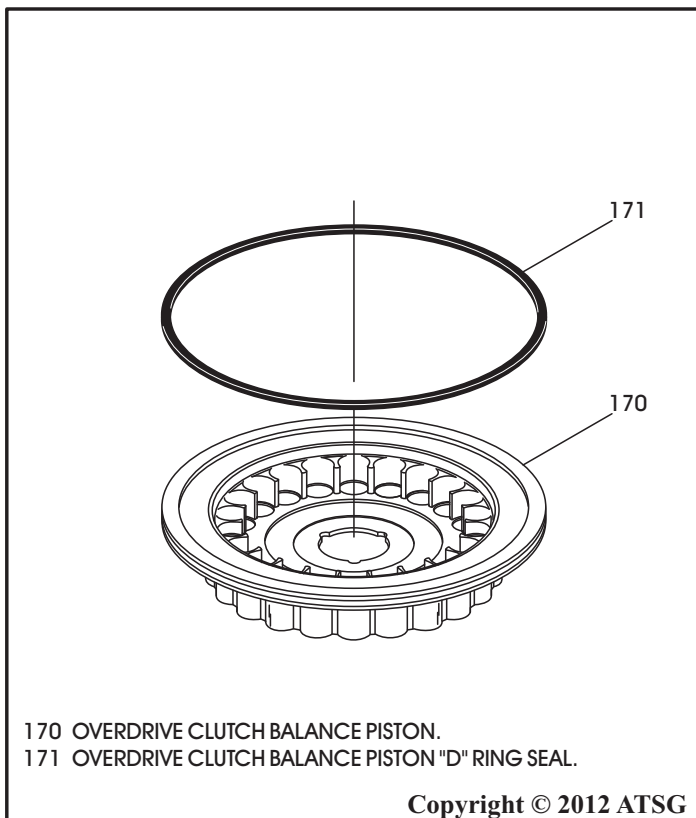

Figure 119
8. Install new "D" ring seal onto overdrive clutch balance piston, as shown in Figure 119, and lube with a small amount of Trans-Jel®.